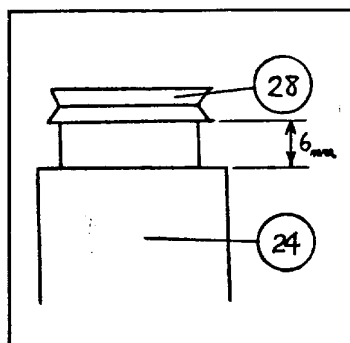

Fig. 25
##### 5) Adjusting the diopter ring in reference to the focusing (Fig. 25 ~ 28).
- Position correctly the index tube (29) (so as the index directs to middle of shoulder of the prism box (3-1), (4-1) (Fig. 25).
- Put the 10.6mm parfocal eyepiece into the eyepiece sleeve (28) which is drawn out by 6mm out of the eyepiece sleeve holder (24) making the origin to read the diopter. Then focus the tool collimator reticle by using the diopter telescope as follows;
- iii) If the reading of the diopter telescope is of plus value, adjust the secondary objective lens cell (19) in drawing out direction from the lens cell holder (7-1) of the zooming tube, and if it is of minus value in pushing in direction.